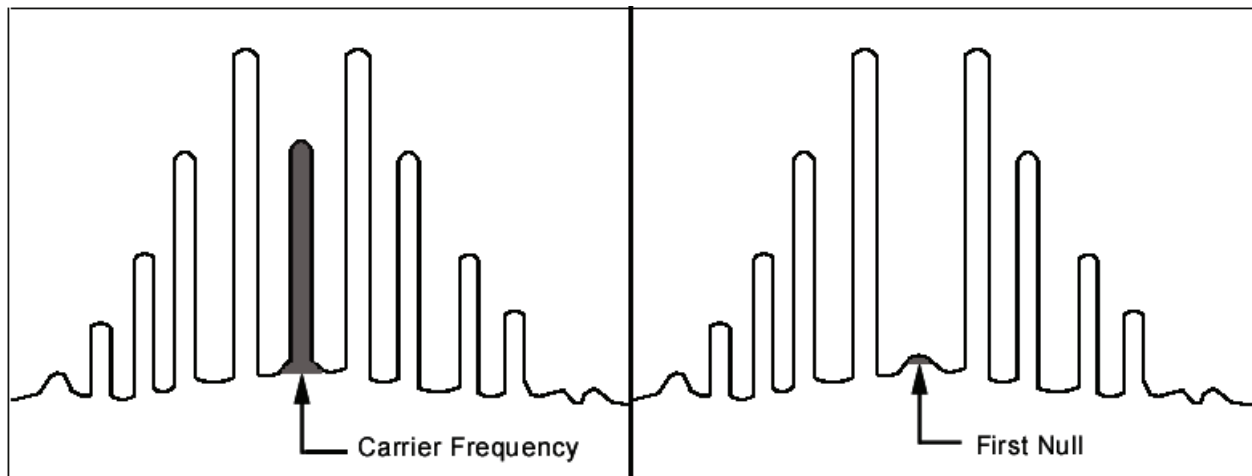

Figure 4. First carrier null of carrier frequency.
- (2) Set function generator controls for a 5 kHz, + 7 dBm output.
- (3) Set TI **TEST MODE** switch to **FM** and **CARRIER FREQUENCY TUNE** to 12.5 MHz (default reading from setup in previous test). If in doubt, initially verify this frequency output).
- (4) Set spectrum analyzer to measure the 12.5 MHz carrier frequency utilizing optimum settings for a display of carrier frequency as shown in figure 4.
- (5) Momentarily disconnect TI **AUDIO INPUT** and adjust spectrum analyzer reference level for full screen deflection of the carrier signal. Reconnect **AUDIO INPUT**.
- (6) Adjust function generator output level until the spectrum analyzer indicates the TI carrier signal nulls into noise baseline as shown in figure 4. (The level should be adjusted so that the TI signal null is half way between the two levels at which the carrier comes out of the noise.)
- (10) Adjust spectrum analyzer until the second harmonic of the doubled carrier frequency signal (approximately 1600 MHz) can be observed. Again, use optimum settings for a display as shown in figure 4.
- (11) Adjust function generator output level until multimeter indicates value noted in (7) above. Note function generator output level dBm setting.
- (12) Readjust function generator output level for a carrier null on spectrum analyzer, as shown in figure 4, and note change in function generator output dBm level. Level change will be less than  $\pm 0.04$  dBm of output level noted in (11) above.